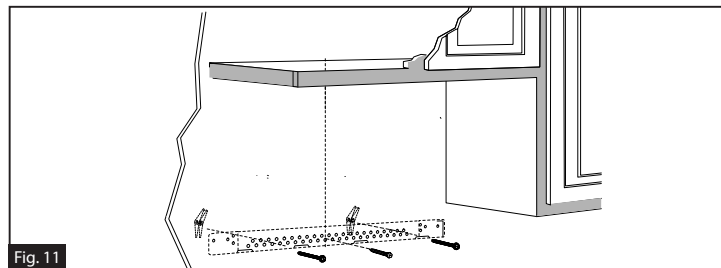

Fig. 11
1. Insert the machine screws ($\frac{3}{16}$ " x 3") into the mounting plate through the holes designed to go into drywall and attach the toggle wings to $\frac{3}{4}$ " onto each machine screw ($\frac{3}{16}$ " x 3"). (Fig. 11)